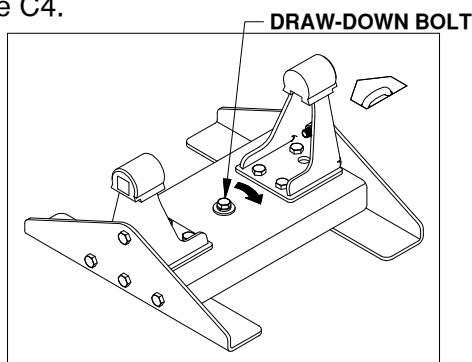

Figure C4: View of Companion base.
6. Tighten the 1/2" x 3-1/2" draw-down bolt to **60 ft-lbs**, see Figure C4.